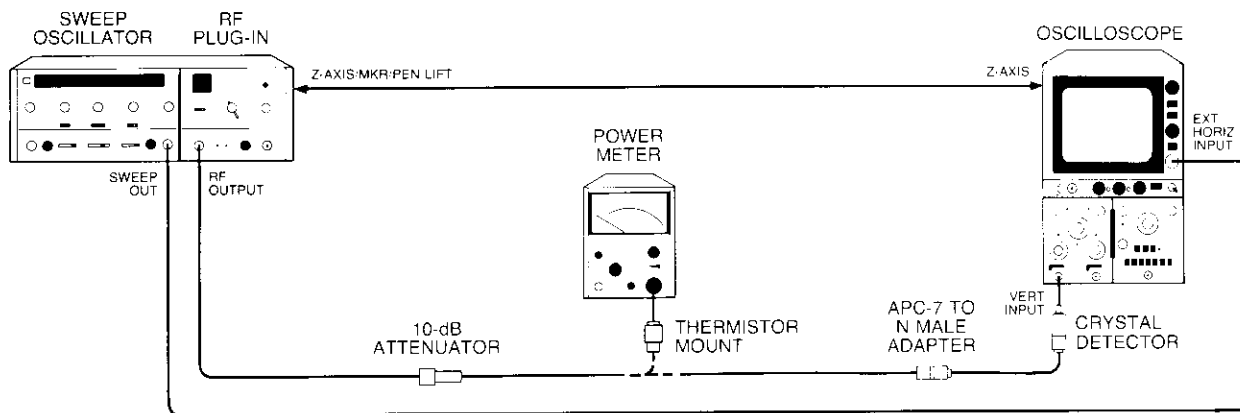

Figure 5-17. Detector compensation Adjustment Test Setup
- j. Connect equipment as shown in Figure 5-17 with power meter connected to 86290A RF OUTPUT. Draw a calibration line on oscilloscope using procedure in Paragraph 5-26, step 1. Change all references to 8755A to oscilloscope and delete all references to MODULATOR DRIVE. Oscilloscope should be on most sensitive range.